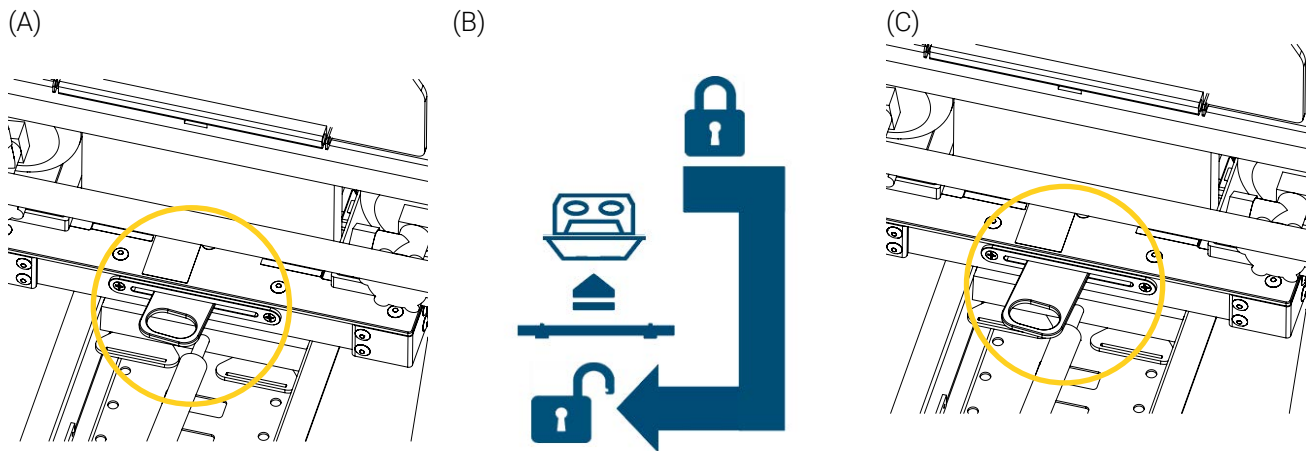

Figure 11: Unlocking the incubator - Patient head end
1. At patient head end, locate the quick release latch. It should be retracted towards patient left in the locked position (Figure 11 A).
2. Move the quick release latch towards patient right, pull out the latch, then move it towards patient left (Figure 11 B) to unlock the incubator from the mounting solution (Figure 11 C).